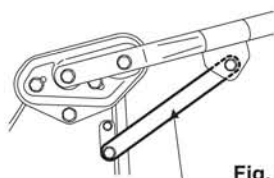

Fig. 4
3. Remove the housing bolts and loosely fix the bar temporarily. (See Figs. 4)